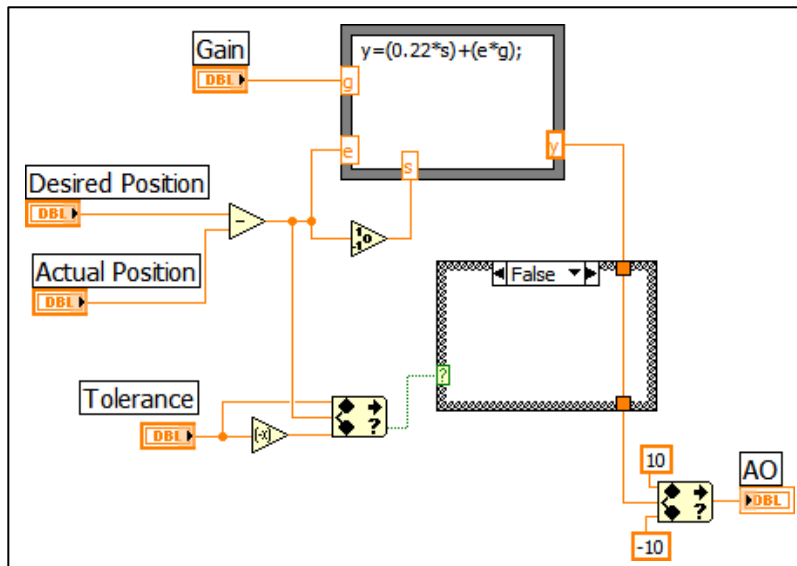

Fig. 6. Feedback VI when Cylinder Position is *not close* to Desired Position
- During closed loop control, the valve command is determined by the *Feedback* subroutine (VI). The valve command is found by *multiplying* the proportional controller *gain* by the position *error*. The error is calculated as the difference between the *desired* and *actual* positions (in inches).
- Once the position is within the *tolerance* of the desired position, the valve command is set to *zero*, keeping the system from trying to make *small corrections* to the position. *Figs 6* and *7* show the feedback block diagram when the system *is* and *is not* within the *tolerance* of the desired position.